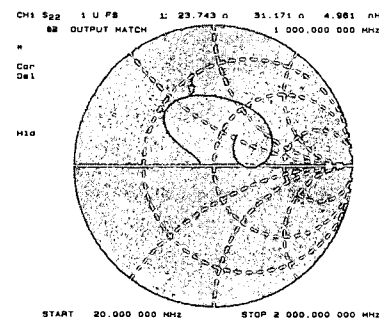

Figure 11. Complex impedance measurement.
2. Display the output impedance by measuring S22 in Smith chart format. Figure 11 shows amplifier output impedance.